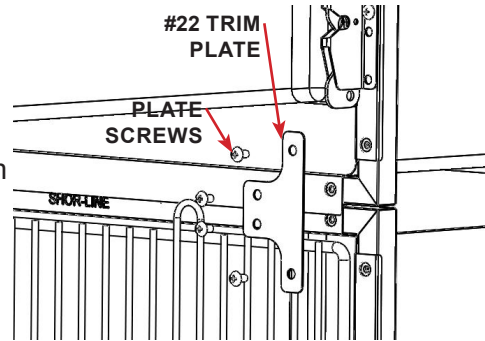

FIGURE 2.47 - Trim Plate #22
**STEP 26:** Remove the bottom right trim plate screws (4 each) from the last cage in the row and the last cage in the row below. See FIGURE 2.47
**STEP 27:** Install, but do NOT fully tighten screws, trim plate (#22) using the screws removed in the previous step. See FIGURE 2.47